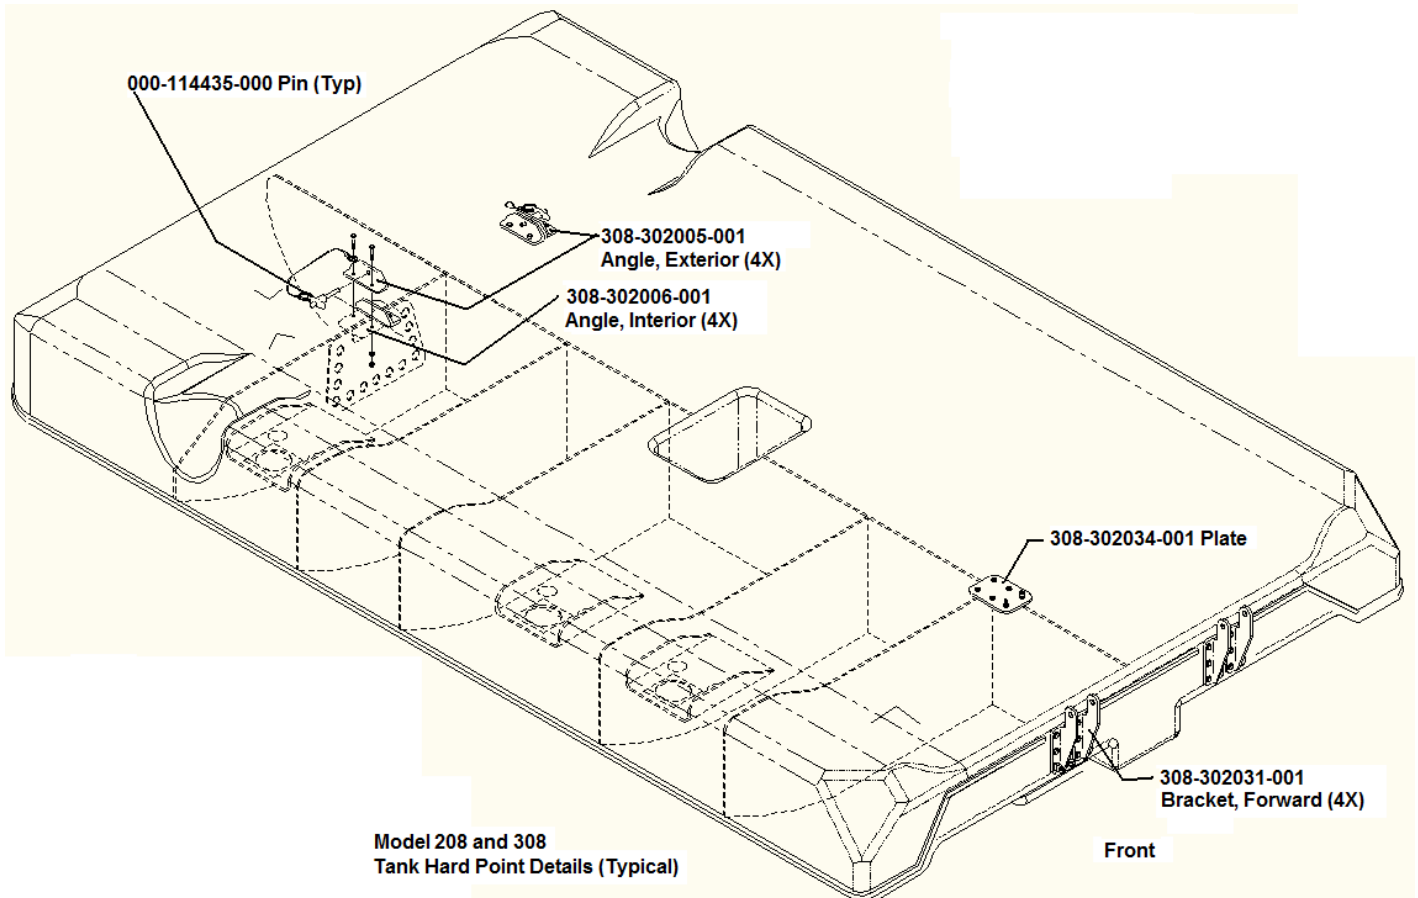

Figure 1: Tank Attachment Details (Typical)
4. Remove equipment shroud and access covers in accordance with specific system MM or ICA to gain access to front attachment brackets and hardware (Figure 1).